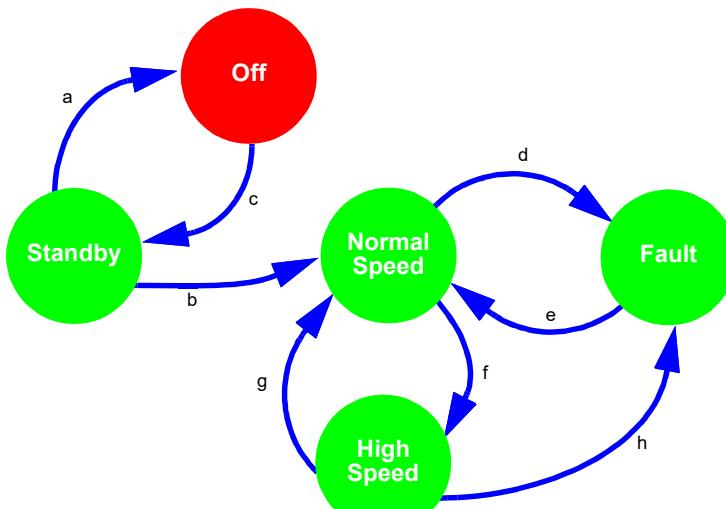

Figure 107: Asynchronous State Machine State Transitions
The Asynchronous State Machine macrocell is one of several macrocells in the Asynchronous State Machine Subsystem, and its specific role is to hold one active state at a time, and to facilitate user defined state transitions in a fast and power efficient manner. This macrocell is designed to allow the user to create state machines with between 2 to 12 states. When combined with the other macrocells in the ASM subsystem [four Dynamic Memory (DMx_X) macrocells, three Matrix Interface (MIx) macrocells, and one f(1) Computation Macrocell], the user has flexibility to define the available states, the available state transitions, and the input signals (a, b, c ...) that will cause transitions from one state to another state, as shown in the example in Figure 107.